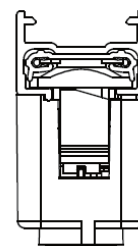

Fig. 4
3. Rotate ADAPTER until LOCKING LEVER snaps and locks in place (Fig. 4).